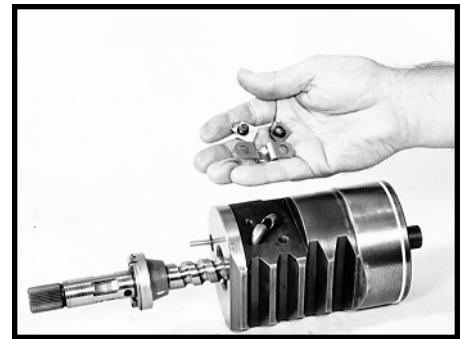

Figure 69
**NOTE: The worm shaft part of the assembly will be inside the rack piston, with the input shaft part of the worm protruding from the rack. Take care when you remove this assembly from the housing. To prevent the Teflon rack piston seal (29) from getting caught in the sector shaft cavity, remove the assembly from the long end of the housing, if the housing is open on both ends.**
**NOTE: To prevent the Teflon rack piston seal ring (29) from "hanging up" as it exits the housing sector shaft cavity in housings that are closed at the long end of the rack piston bore, cut and remove the seal ring from the rack piston when it is exposed in the sector shaft cavity of the housing, during the removal of worm shaft/input shaft, rack piston assembly.**
33. For rack pistons with the ball return guide clip (44), bend the tangs down on the two locking tabs (45). SEE FIGURE 68. Remove the two hex head bolts (46), tabs and clip. Discard locking tabs. SEE FIGURE 69. 1/2 inch hex socket required.